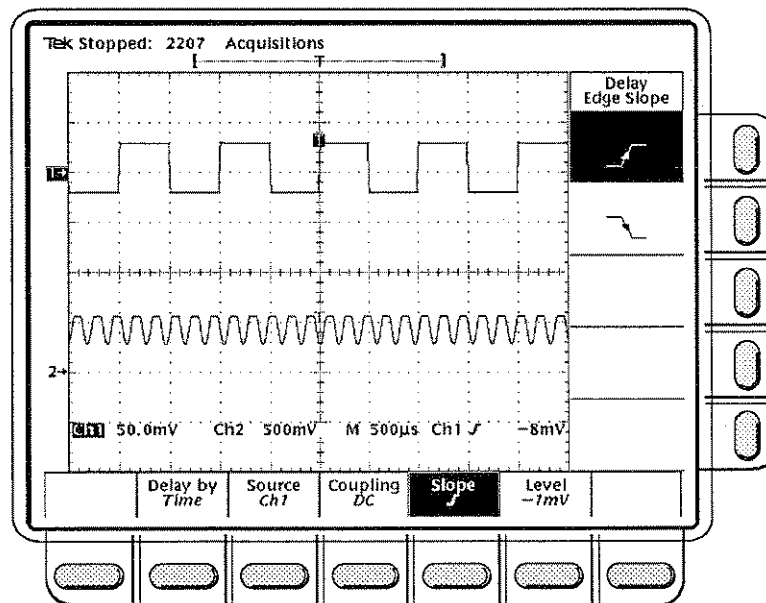

Figure 3-9: Delayed Trigger Menu – Slope
- **Step 5:** Press the main menu **Slope** item to select the slope that the delayed trigger will occur on (Figure 3-9). Alternatives are rising edge and falling edge slopes.